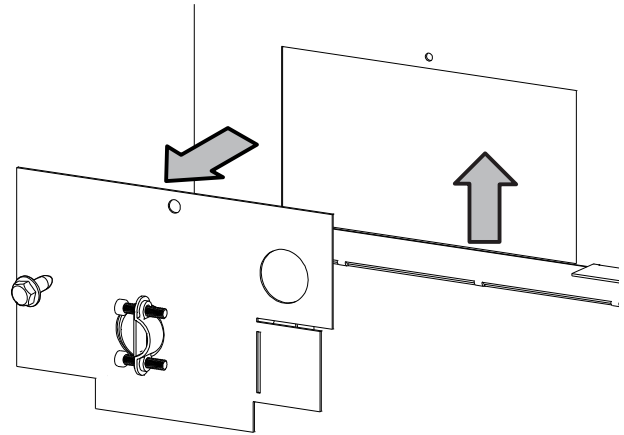

Figure 11
- Connect the wire harness from the light kit to incoming power from the wall inside the junction box. See Junction Box Wiring Instructions and Figures 11 and 12.
- Remove the electrical access cover panel from the left end of the fireplace. See Figure 11.
- Re-install the junction box and electrical access cover panel onto the firebox using the screw removed in step 1. See Figure 11.